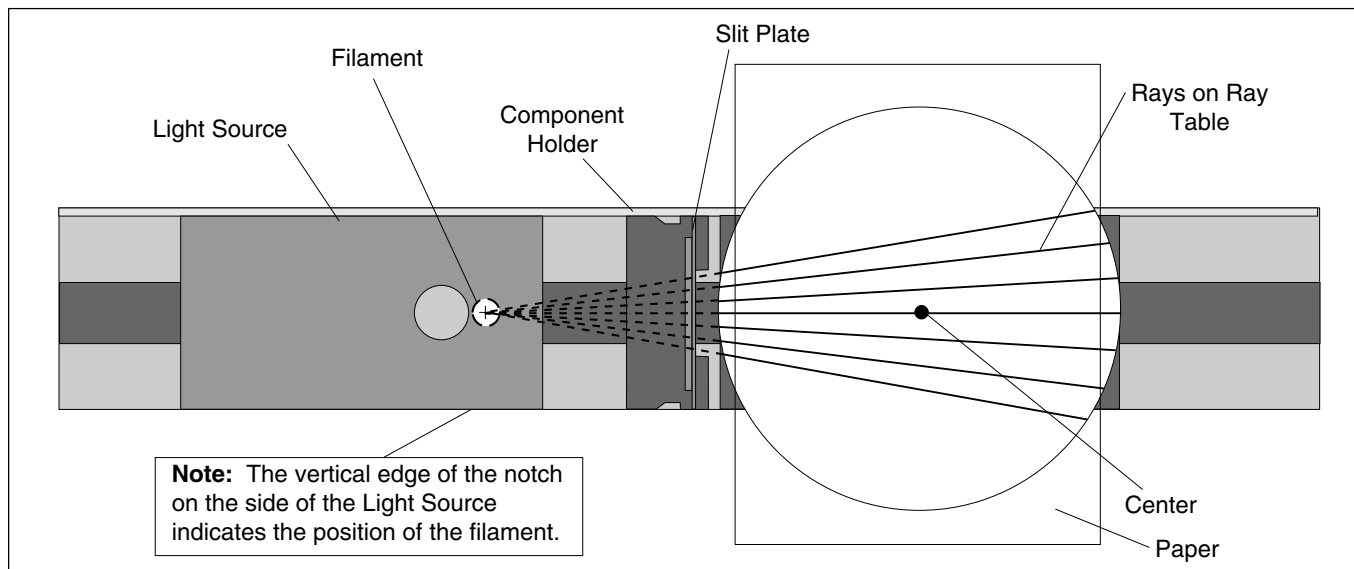

Figure 1.2: Ray Tracing
You can use the fact that light propagates in a straight line to measure the distance between the Light Source filament and the center of the Ray Table. Figure 1.2 shows how. The rays on the Ray Table all originate from the filament of the Light Source. Since light travels in a straight line, you need only extend the rays backward to locate the filament. (See Step 3 in the first part of this experiment.)
- ① Measure the distance between your reference mark and the point of intersection of the rays.
- ② Use the metric scale on the Optics Bench to measure the distance between the filament and the center of the Ray Table directly (see the note in Figure 1.2).
- ③ How well do your measurements in Steps 1 and 2 agree? Comment.